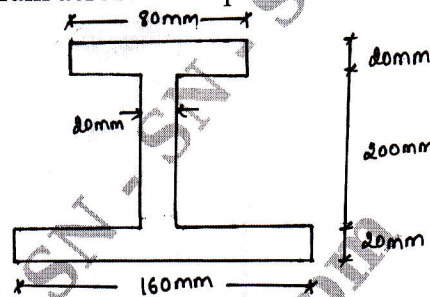

Fig.Q6
- 6 The unsymmetrical I-section shown in Fig.Q6 is subjected to a shear force of 40 kN. Draw the shear stress variation diagram across the depth.